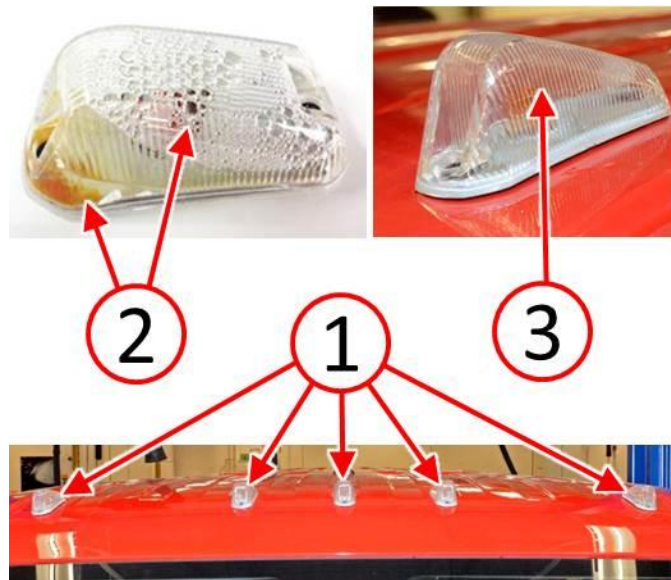

Fig. 1 Inspect Front Cab Roof Clearance Lamps For Moisture
1. Visually inspect all five front cab roof clearance lamps (1) for any signs of moisture (2) inside, lamps should be dry (3) inside (Fig. 1).